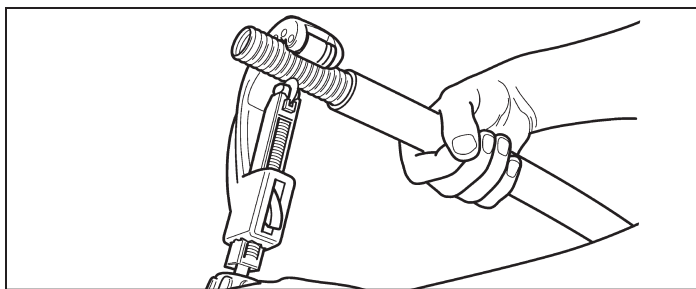

Figure: 4-57
- Using the tubing cutter, trim the corrugated pipe to the strip length specified in Table 4.8. Cut slowly in the root of the corrugation in the same manner you would cut copper tubing. Inspect the end of the pipe for a clean cut without tears in the corrugation (Figure 4-57).